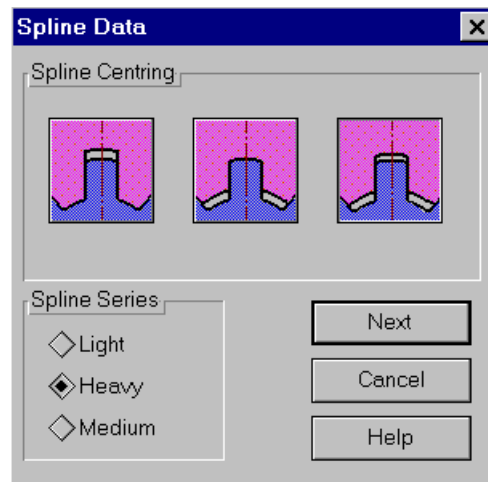

Fig 6.15 Spline Data dialog box
- The *Spine Joint* dialog box (this dialog box is displayed if in the previous step you select spline joint) (fig.6.15)